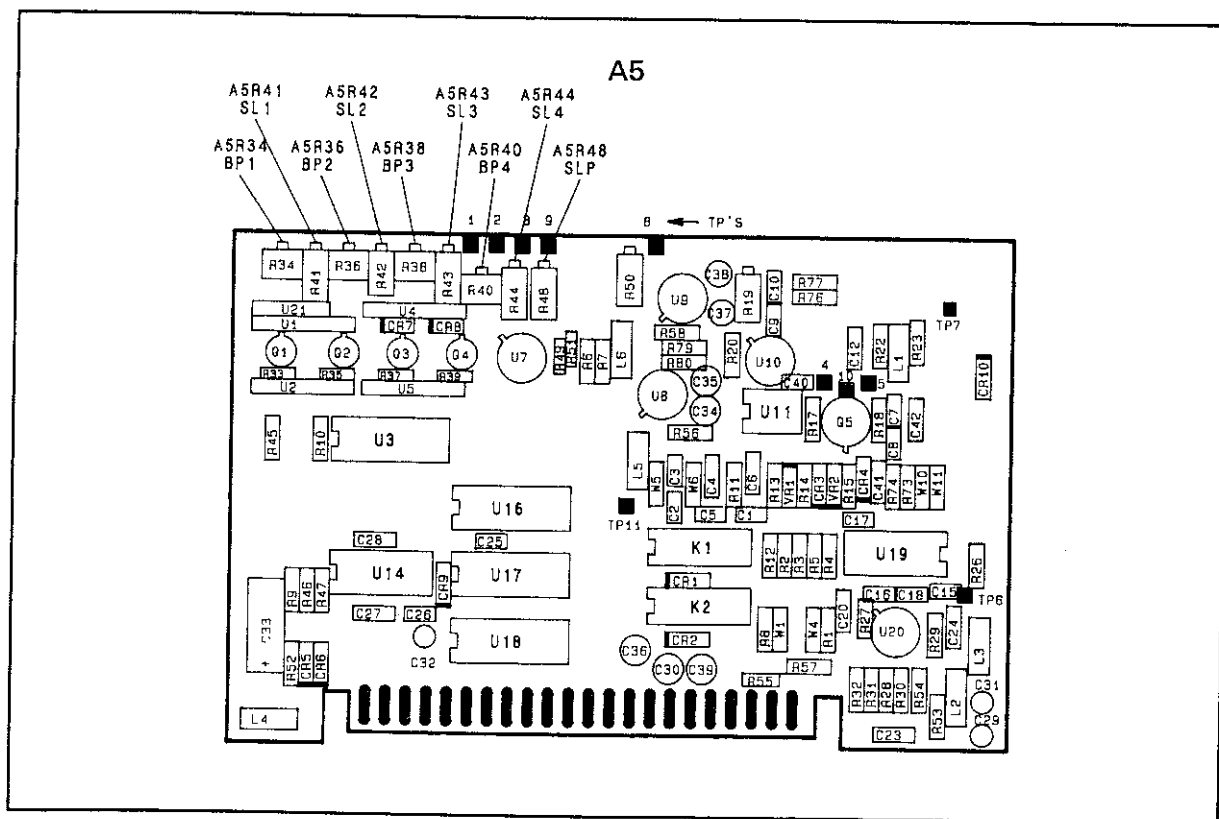

Figure 5-15. ALC Leveling Adjustment Locations
12. Adjust A5R48 fully counterclockwise. Adjust all the breakpoint potentiometers fully clockwise against the stops: these are A5R34 (BP1), A5R36 (BP2), A5R38 (BP3), and A5R40 (BP4), illustrated in Figure 5-15. This effectively removes the circuit from the leveling loop.
13. BP1 – BP4 and SL1 – SL4 (Figure 5-15) are interactive adjustments used to remove RF power variations. Potentiometers BP1 to BP4 set the frequency breakpoints at which the slope adjustments SL1 to SL4 take effect. It may not be necessary to adjust all of the potentiometers.